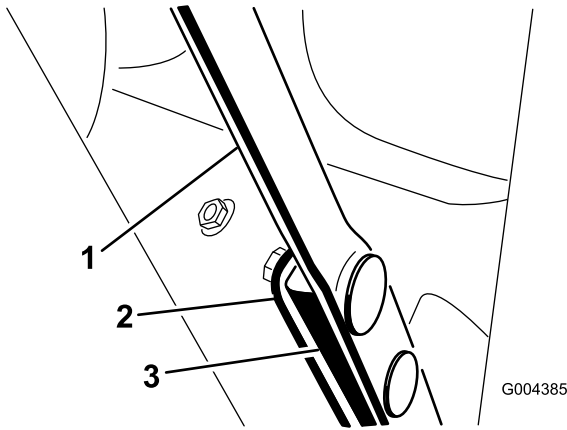
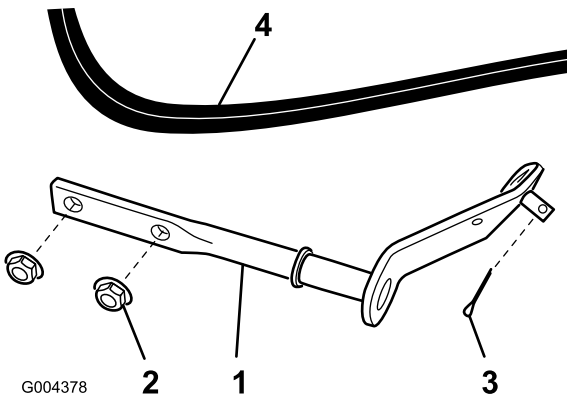

Figure 8
Figure 9
Refer to Figure 8 and Figure 9 for the correct assembly sequence.
7. Connect the deck engagement cable loop end to the stud on the new lower PTO lever with the new cotter pin (Figure 9).